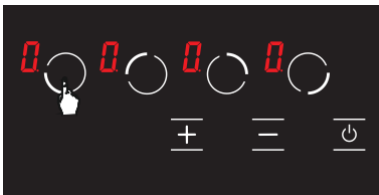

Figure 6
2. Press the relevant hob selection key. The  icon will be displayed in the relevant hob when you touch for the first time. (See Fig. 6)